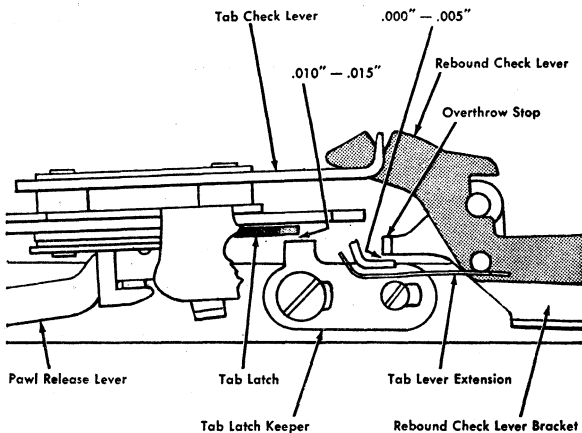

Figure 33. Tab Operating Link Adjustment
6. TAB OPERATING LINK. Adjust this so that, with the cam on its high point, there is .010" to .015" clearance between the tab latch and the tab latch keeper (Figure 33).
- b. The tab lever extension is formed so that, with the tab cam at its high point, the extension has $.000''$ to $.005''$ (paper clearance) with the upright stop on the rebound check lever bracket (Figure 33).